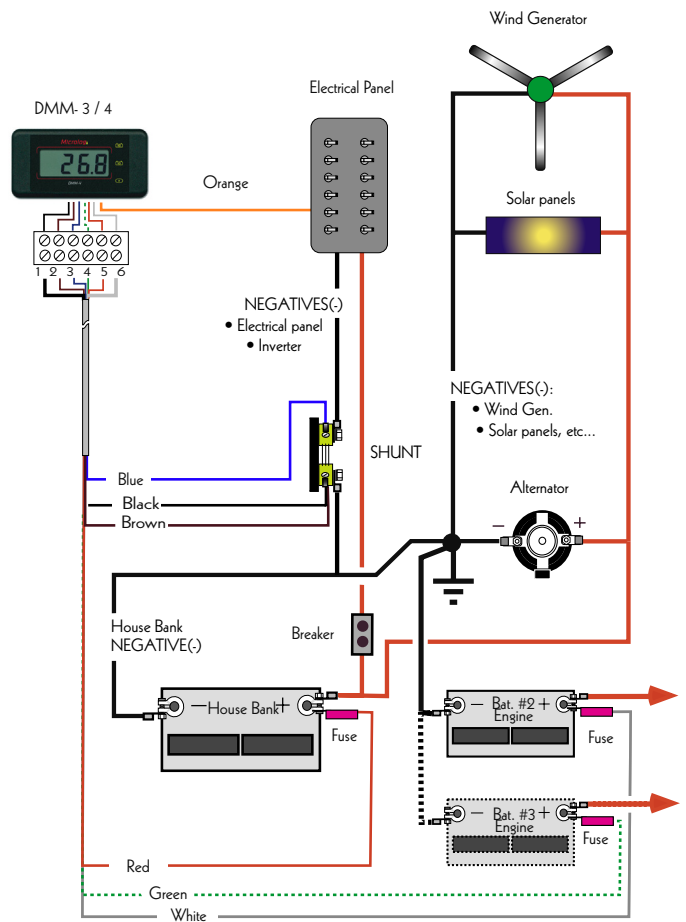

Figure 3: Shunt Installation to monitor the discharge current
- B- You can install the shunt to monitor the discharge current only, as in Figure 3.
B- Figure 3 show the instrument with shunt for discharge current monitoring only :